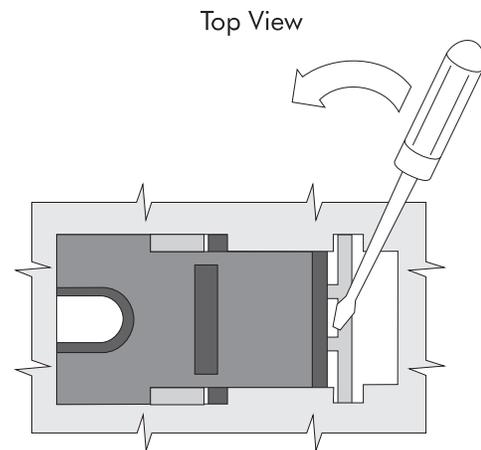

Figure 2-13. Removing and Replacing the Slide Latches
- 4 Gently pry and press at the point shown in Figure 2-13.